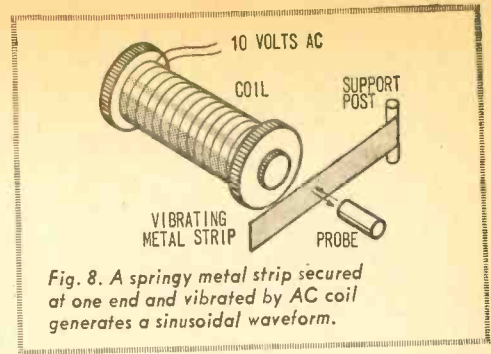

Fig. 8. A springy metal strip secured at one end and vibrated by AC coil generates a sinusoidal waveform.
**Coil Vibrator.** Sinusoidal waveforms can be generated by simply pointing the sensor probe at the side of flat strip of flexible metal vibrated by a small AC coil as shown in Fig. 8. The coil is easily made by wrapping enameled coil wire around a nail and then connecting the coil to an 8-10 VAC transformer. The springy steel strip is supported at one end and is positioned far enough from the coil core so that it will vibrate without touching the core.